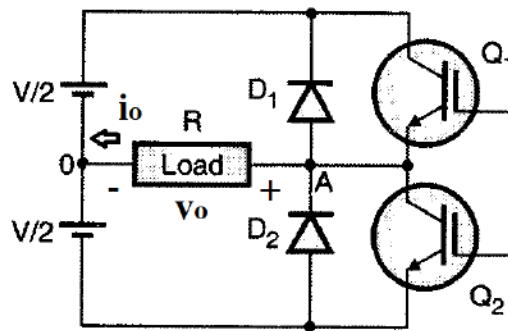

Fig. 3.5 : Half bridge inverter
- The principle of single phase transistorised inverters can be explained with the help of Fig.3.5. The configuration is known as the **half bridge configuration**.
From the output voltage waveform shown in Fig. 3.5 the rms value of output voltage is given by,